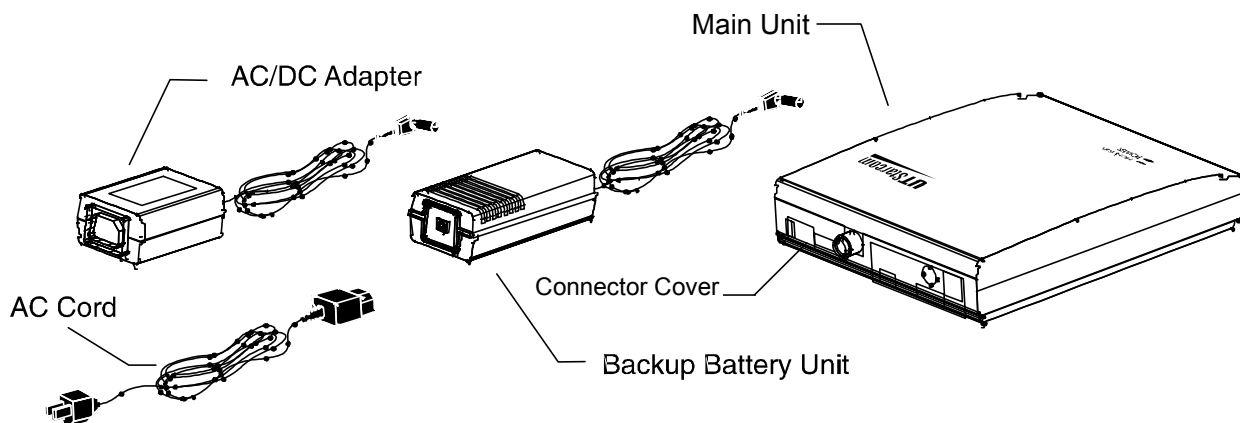

Figure 4-11 : FSU and Accessories
2. Make sure that the FSU's power cable is disconnected. Then connect the FSU to be configured to the PSJ\_Jr. device. Raise the connector cover and attach the special FSU connector to the the back of the FSU. Refer to Figure 4-11. Attach the other end of the cable to the connector on the PSJ\_Jr. device labeled PS.
Figure 4-11 shows the FSU and its accessories.